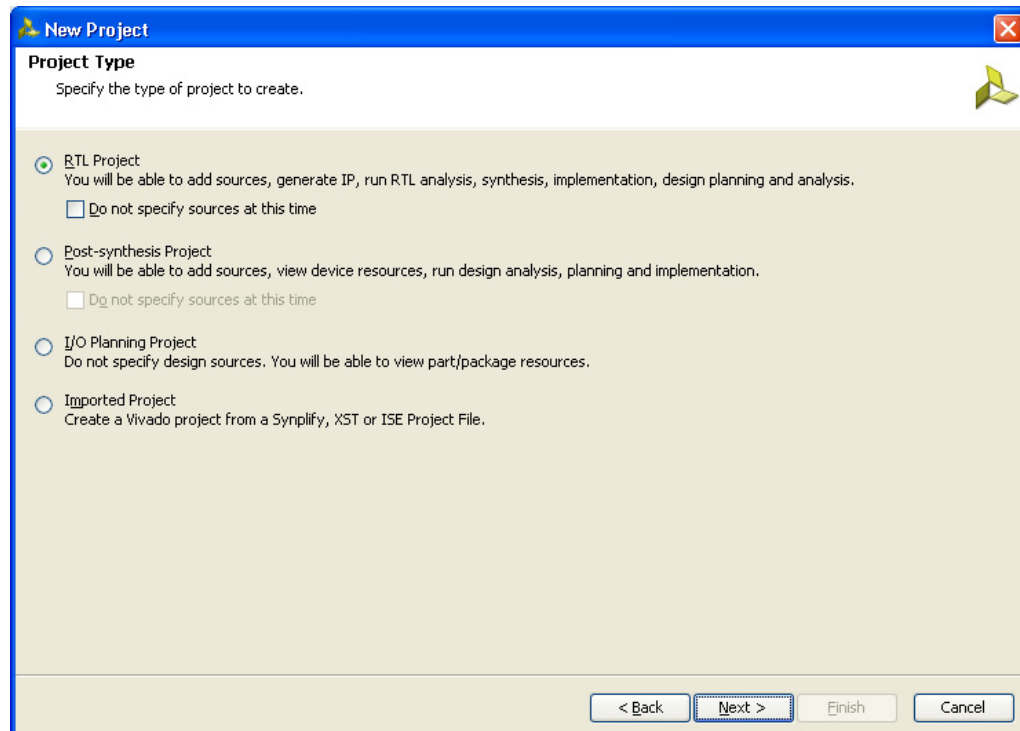

Figure 2-4: Project Type
4. Click **Next** to proceed to the Project Type page (Figure 2-4). Select the Project Type as RTL Project because MIG deliverables are RTL files.